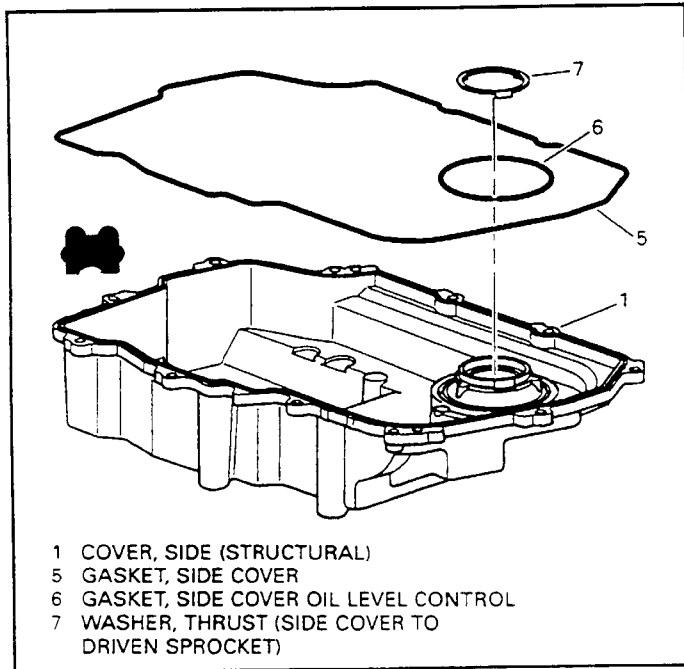

Figure 181
3. Install the side cover gaskets carefully into the grooves with the dual lips facing up as shown in Figure 181.
5. Install the side cover to driven sprocket thrust washer (7) onto the side cover, as shown in Figure 181, and retain with "Trans-Jel".